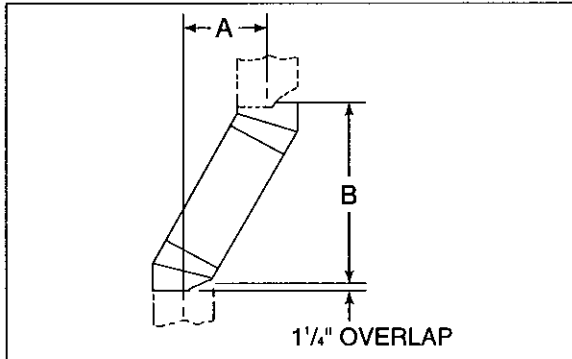

Figure 8
1. Measure how far the chimney needs to be shifted to enable it to avoid the overhead obstacle. See Figure 8 (page 12), dimension "A".
Example: Your "A" dimension from Figure 8 is 14½". Using Table 1, the dimension closest to but not less than 14½" is 14¾" using a 30° offset/return. It is then determined from the table that you would need 33⅙" (Dimension "B") between the offset and return. The chimney components that best fit your application are two SL312's.